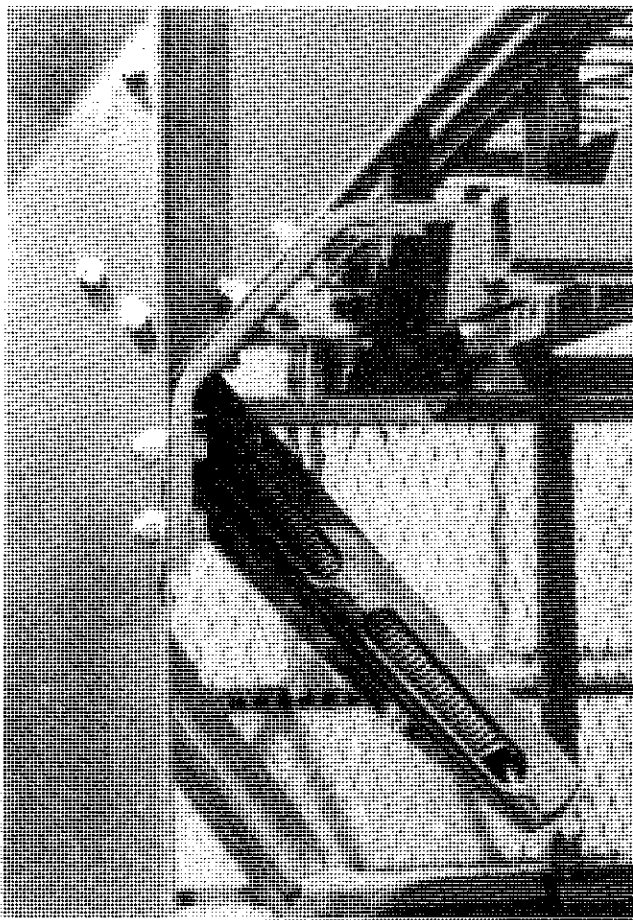

FIGURE 53 - UPPER RETAINER INSTALLATION
Insert two (2)  $\frac{5}{8}$ " x 2  $\frac{1}{2}$ " hex bolts and two (2)  $\frac{5}{8}$ " flat washers through angle on track and the retainer attaching brackets. Push retainer as close to the unloading elevator as possible and secure with two (2)  $\frac{5}{8}$ " nuts, two (2)  $\frac{5}{8}$ " lock washers and two (2)  $\frac{5}{8}$ " flat washers. The retainer will be adjusted later (see figure 53).